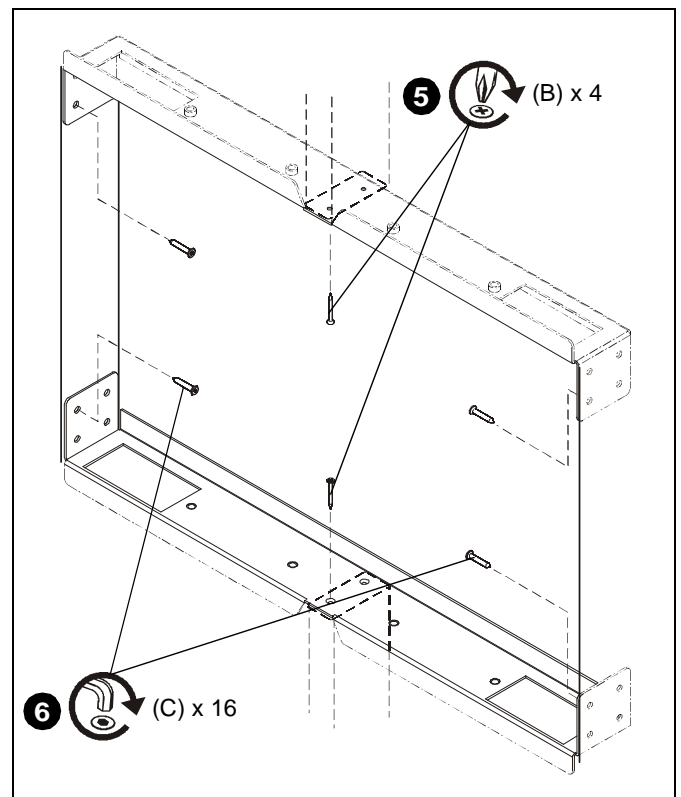

Figure 6
5. Secure upper and lower brackets to center studs using four 08 x 1-1/2" Phillips flat head wood screws (B) at center studs. (See Figure 6)
6. Secure upper and lower brackets to side studs using sixteen M7 x 40mm connector screws (C) and M4 Allen head bit (D). (See Figure 6)